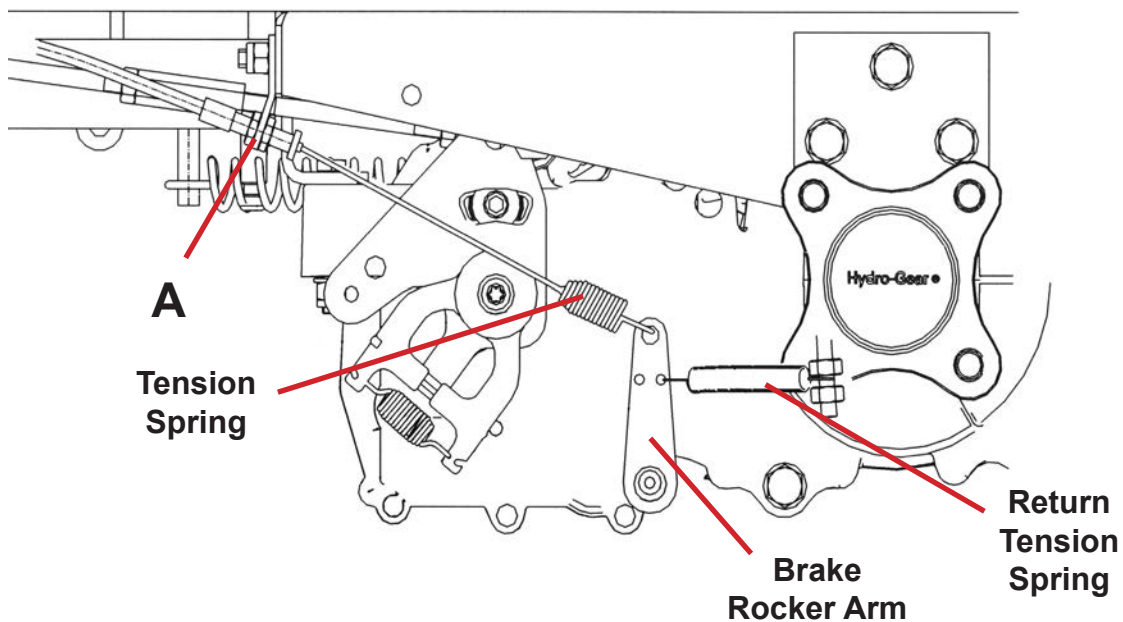

Figure 11
2. To adjust the parking brake cable loosen nut to adjust at point A (see Figure 11).